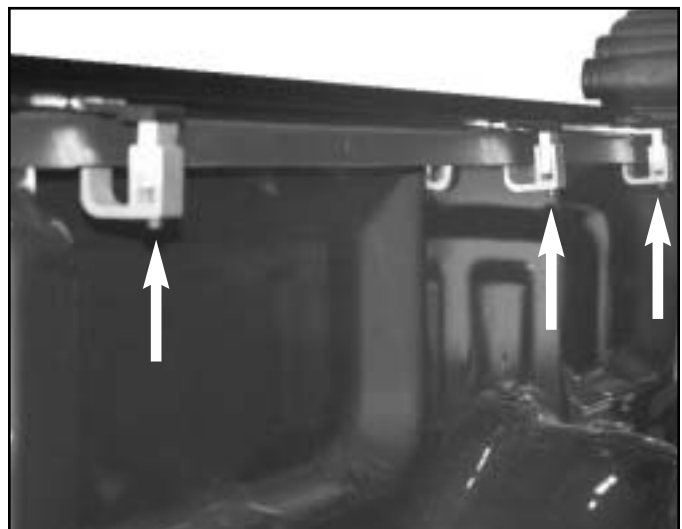

Figure S-79
5. Remove the six (6) clamp arm fasteners and lower clamp arm jaws. See figure S-79.